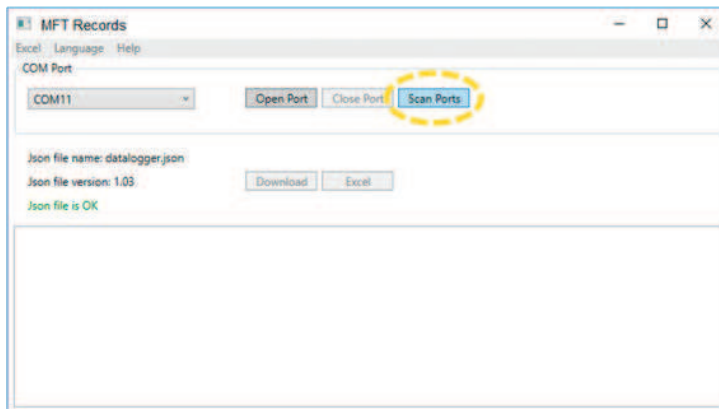

Figure 8.1: Scanning Ports
- Step 4** Once the software is opened, you should follow the next instructions. Click on **Scan Ports** (Figure 8.1)